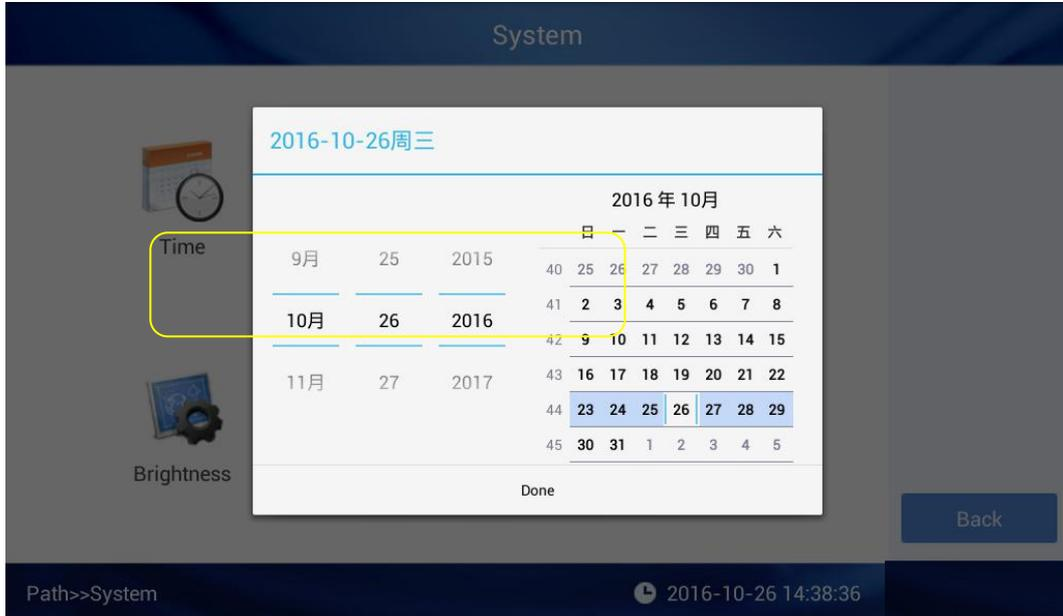

Fig 4.30 Date setting
①Click **Set Date** to enter the interface as Fig 4.30, click the time button to unlock the date setting area, sliding setting the date.